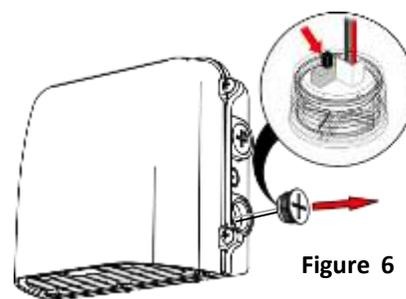

Figure 6
1. Remove the conduit-style photocontrol and gently pull it away from the fixture [Figure 6]. Be sure not to pull on or disconnect the wiring harness.